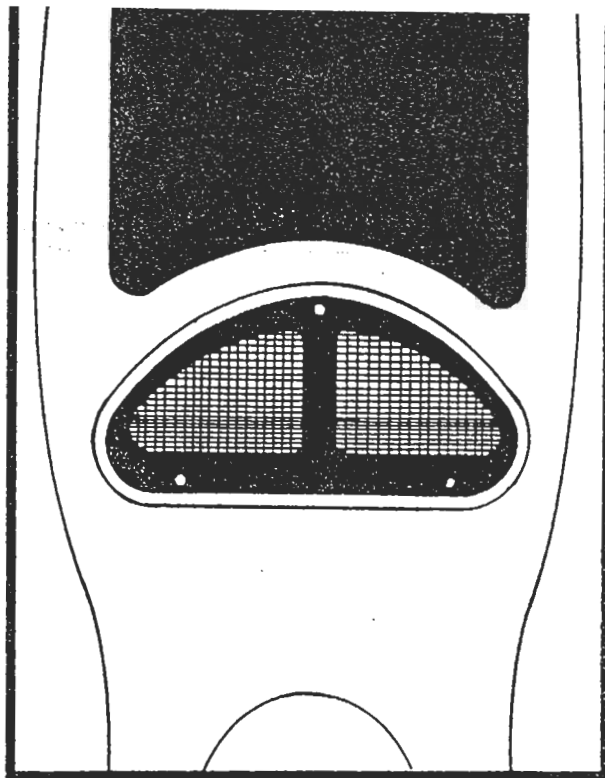

FIGURE 7
11. Install front light (item 10 pg 2) and secure using (3) three # 6 x 1/2" screws (item 1 pg 2). Install front light trim (item 11 pg 2) around light. See figure 7.